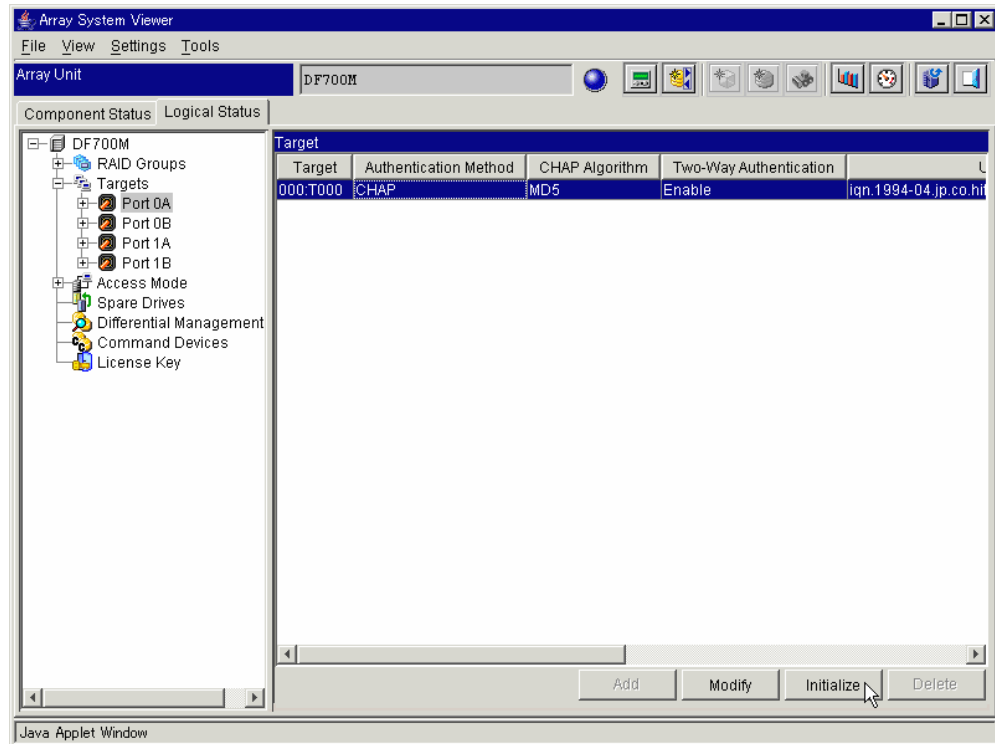

Figure 8.19 Array System Viewer - Initialize
1. Click the **Logical Status** tab. See Figure 8.19.